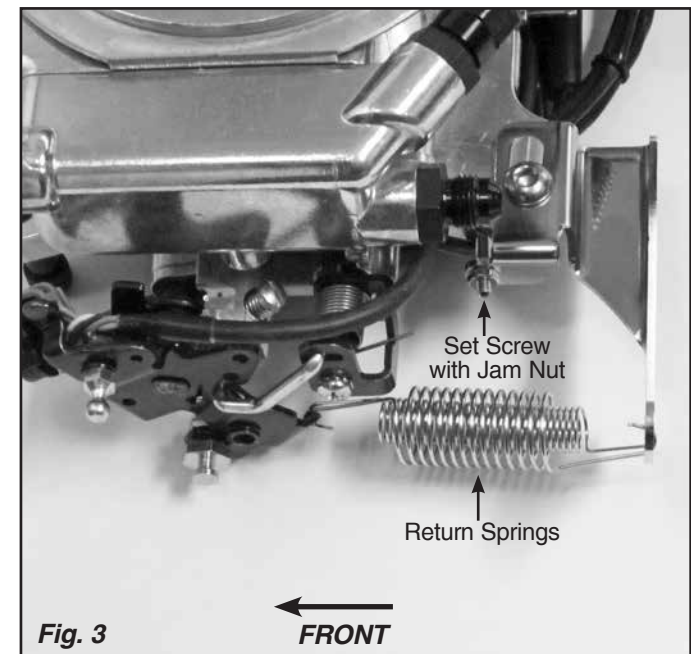

Fig. 3
**Step 4:** Connect the rear ends of the return springs to the lowest hole in the Throttle Cable Bracket. Connect the front ends of the return springs to the small hole at the rear edge of the lower part of the throttle lever. Fig. 3